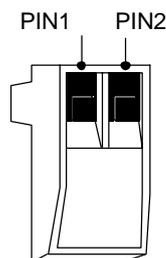

Figure 21. REPO Connector
3. Connect isolated, normally-open, dry contacts (rated at 60 Vdc maximum, 30 Vac RMS maximum, and 20 mA maximum) across the REPO device to Pin 1 and Pin 2 (see Figure 21). Use stranded, non-shielded wiring, size 18-22 AWG (0.3 mm²-0.75 mm²).